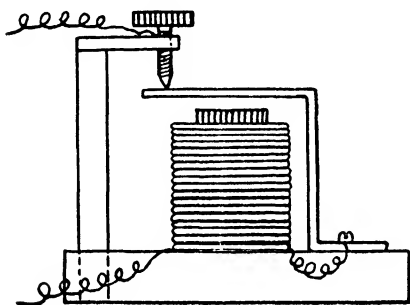

FIG. 89.—A buzzer.
5. **A Buzzer.**—Make an electro-magnet using 100 feet of No. 26 cotton-covered wire in the same manner as the large lifting magnet in the previous experiment and mount it on a wooden base as shown in Fig. 89. Heat one end of a steel clock spring to draw the temper and drill a hole through it. Bend and mount as shown. In one end of the base insert a wooden post and extend from the top of it a brass arm carrying a contact screw. Adjust this screw until it just touches the bent spring. Connect one end of the magnet wire to the screw at the base of the spring and the